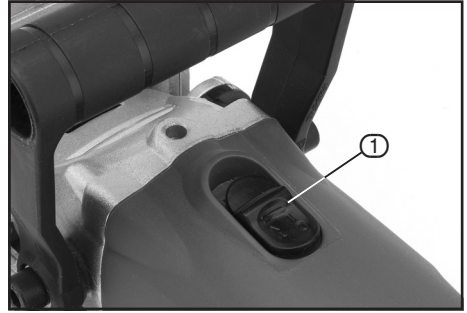

FIG.1
8.1 ON/OFF LOCKING SWITCH – FIG. 1